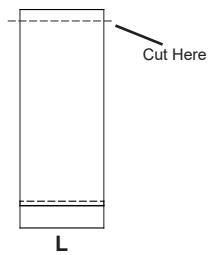

Figure 3a
2. Cut and fit the false treads to length for the closed side of the stair **L**. (See Figure 3a.)